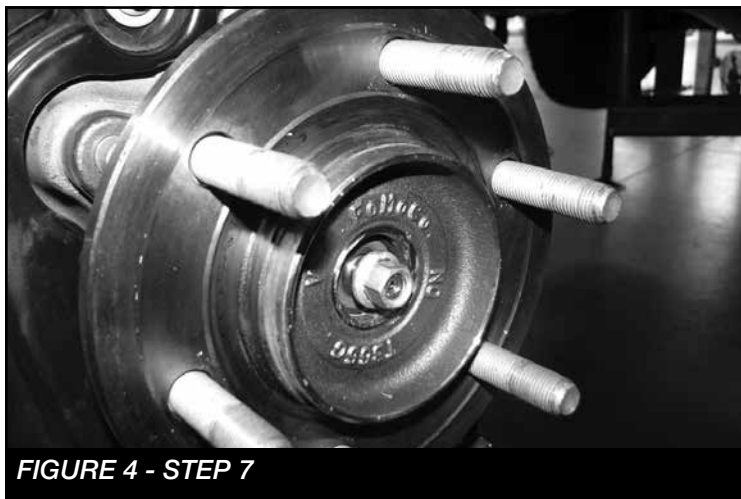

FIGURE 4 - STEP 7
7. Carefully remove the dust cap covering the hub assembly nut. Remove the C.V. bearing nut and save the nut and dust cap. Remove the dust shield and save for reinstallation. **SEE FIGURE 4**